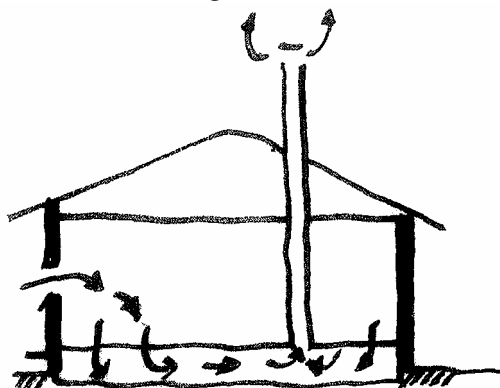

Figure 7.10 – Ventilation under suspended timber floor
- ❖ **Extract under floor air via a chimney pipe, permitting room air to escape at a controlled rate through floor cracks etc.** *Fig7.10*